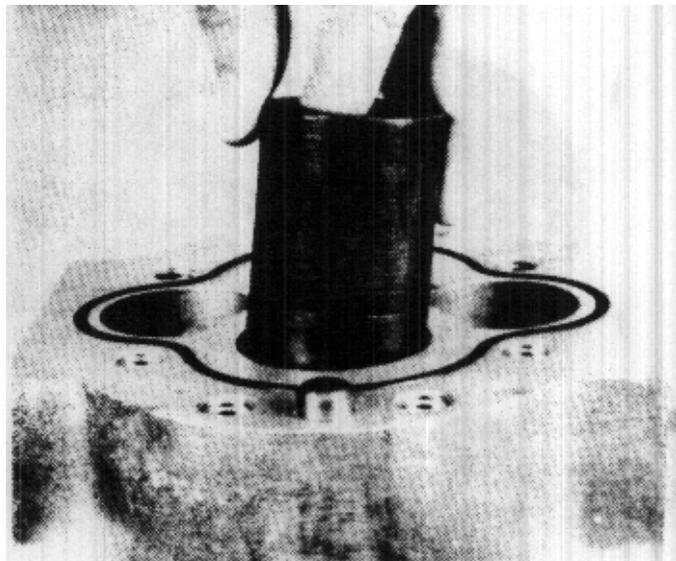

FIGURE 103
42. Position the assembly with the valve body up and install o-ring (34) and spline coupling (31). Make sure the gears are not turned from the timing position until after the other set of gears has been assembled. (Fig. 103)